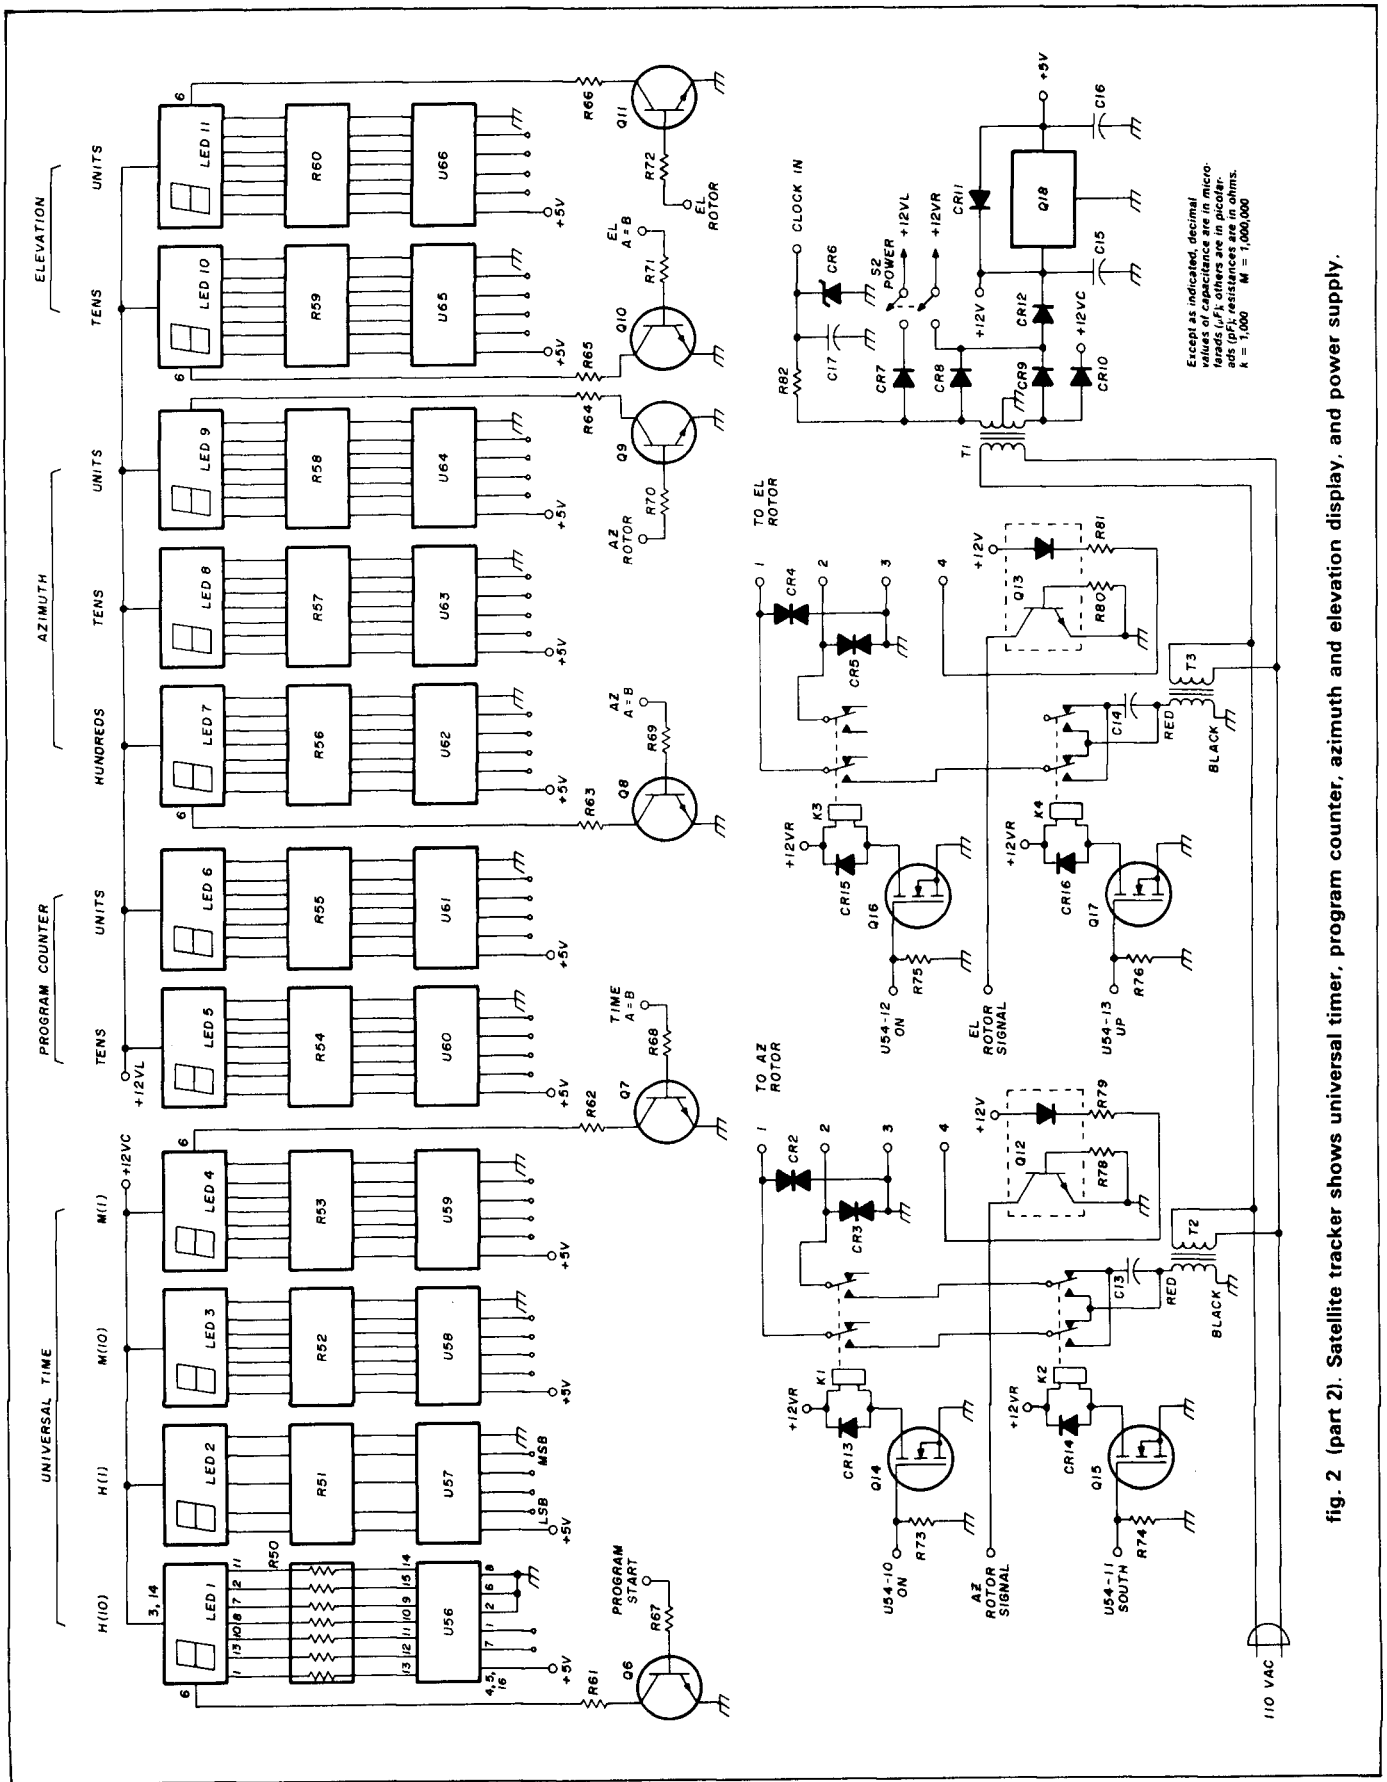

fig. 2 (part 2). Satellite tracker shows universal timer, program counter, azimuth and elevation display, and power supply.
- **Loading data from the keyboard (PROGRAM MODE), (fig. 1).** The key encoder (U1) encodes a keyboard array and outputs the binary value on four data lines (see fig. 2). This data presets the clock,